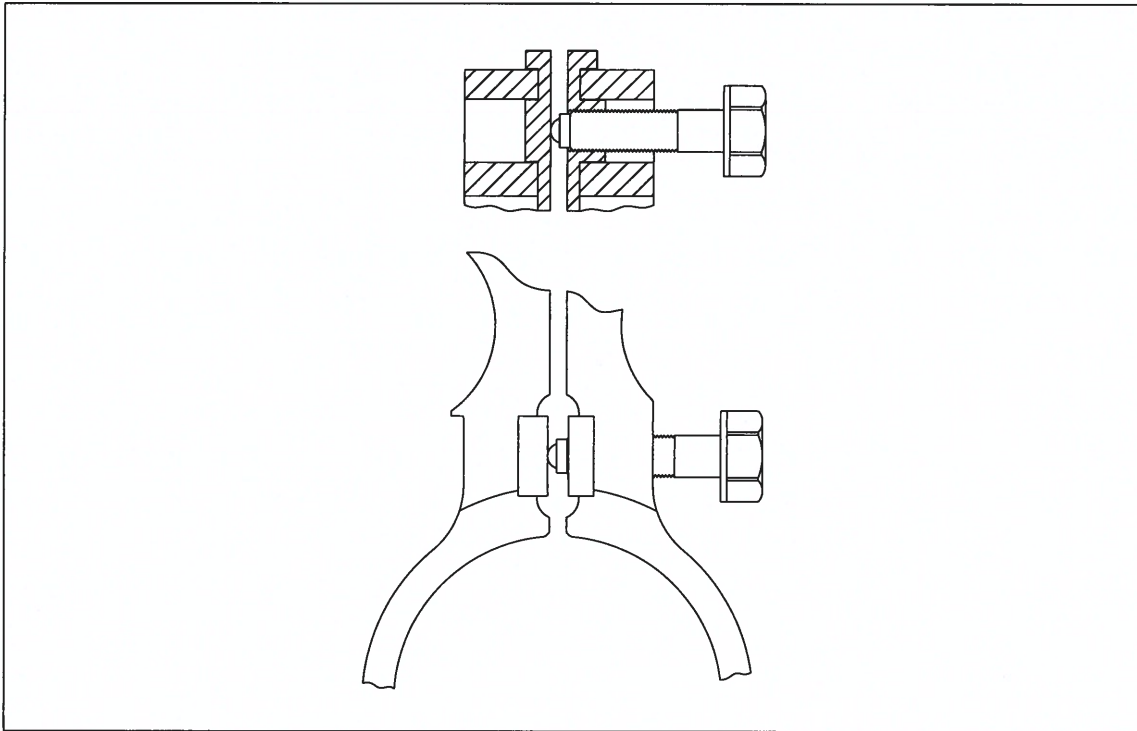

Figure 2 : Expanding device - clamp removal
C. Remove the bolt with nut from the clamp. Remove the clamp using the expanding device P/N 068-8320. Refer to figure 2.